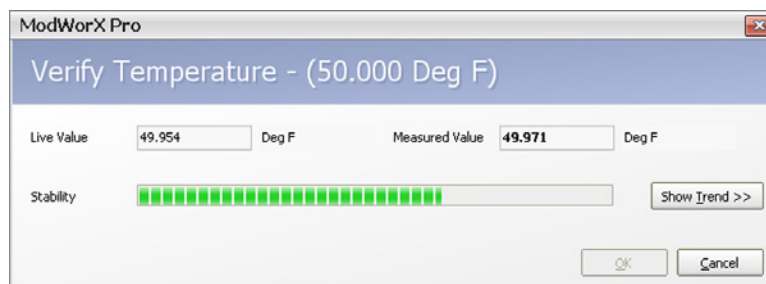
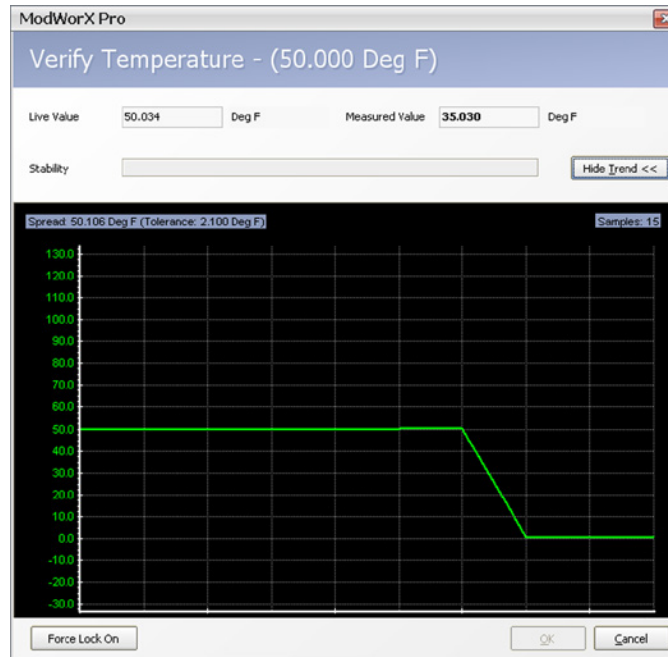

Figure 8.20
Figure 8.21
- Enter the applied temperature value (for example, 50) in this field, and click **OK**. A screen will appear, showing the live value, the measured value, and a stability bar showing the progression of the verification (Figure 8.20). The live value is the instantaneous reading of the temperature input, and the measured value is the average of all samples read.
- To view the progression of the verification process in a graph, click **Show Trend** (Figure 8.20). This graph view also shows the spread of values and the number of sample readings taken (Figure 8.21).